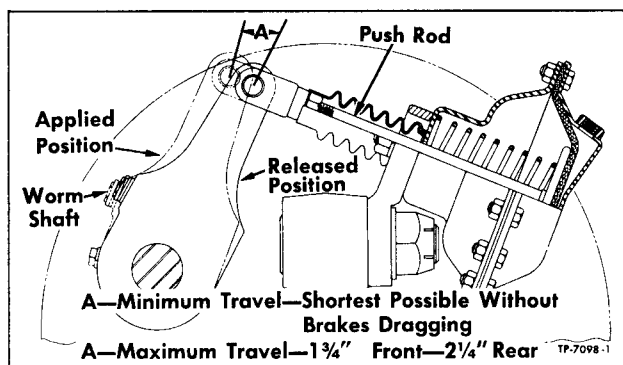
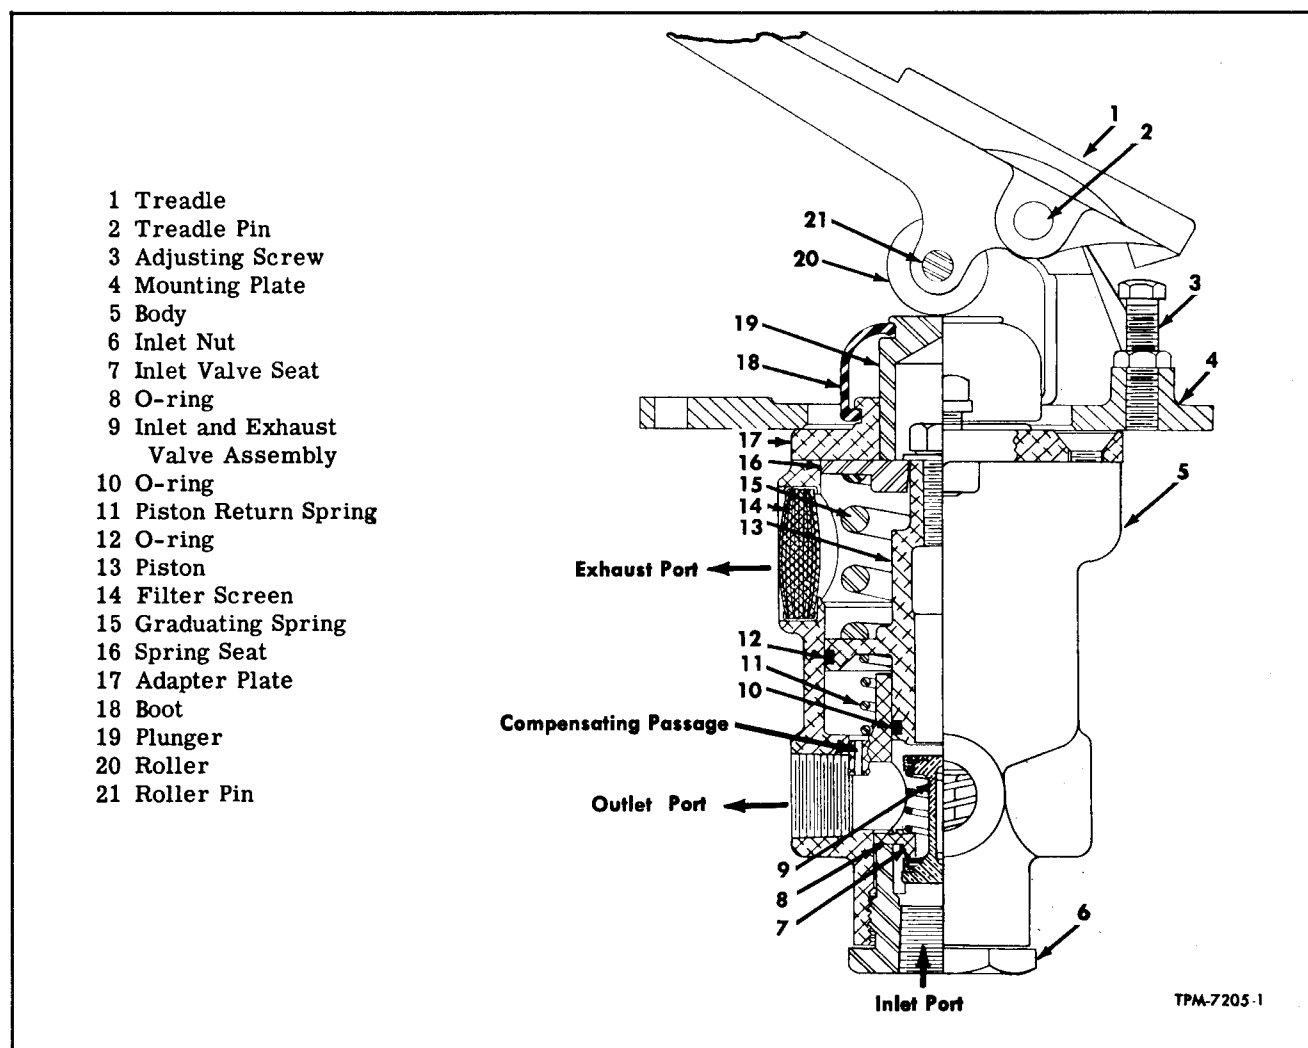

Figure 1—Brake Chamber Push Rod Travel (Typical)
Figure 2—Brake Application Valve
Brake adjustment for normal lining wear is made by turning slack adjuster worm shaft (fig. 1). Brake chambers and slack adjusters installed are shown in figures 7 and 8. Brake chamber push rod travel should be checked after every 2,000 miles of operation to determine whether adjustment is necessary. While maximum travel shown in figure 2 is permissible, travel should be maintained as short as possible without brakes dragging
4. Adjust adjusting screw (3, fig. 2) to provide 0.001" to 0.002" clearance between treadle roller and plunger with treadle held tight against adjusting screw. Tighten lock nut to secure adjustment.
The brake application valve is mounted below coach floor in an upright position (fig. 2). Valve is attached to a mounting plate which is bolted to coach floor. The brake treadle is also mounted on the mounting plate and treadle roller contacts valve plunger. Movement of the treadle controls movement of an inlet valve and exhaust valve which in turn control air pressure being delivered to or released from the brake chambers. To fully apply brakes, the treadle must be fully depressed, whereas, when treadle is only partially depressed, correspondingly less braking force is developed. In other words, the farther the driver depresses treadle, the greater the air pressure delivered to
Key numbers in text refer to figure 2.
Assembly (Fig. 2)